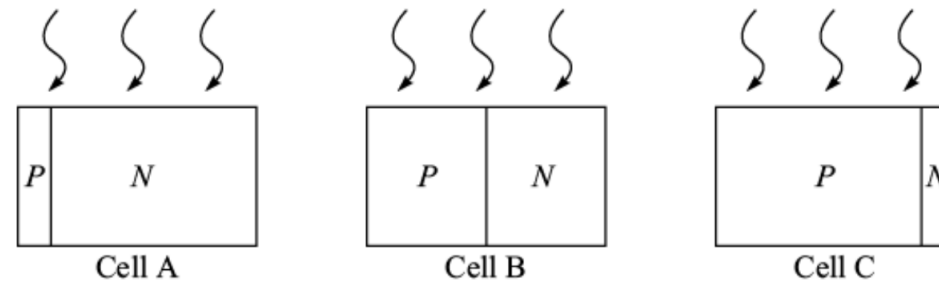

Fig. 5.23 Different designs of solar cells.
5.26 Three different solar cell designs with the side from which light is falling is shown in Fig. 5.23. Which of the three cells will have the highest cell efficiency? Comment. What will happen to the cell efficiencies if light enters from the left-hand side?